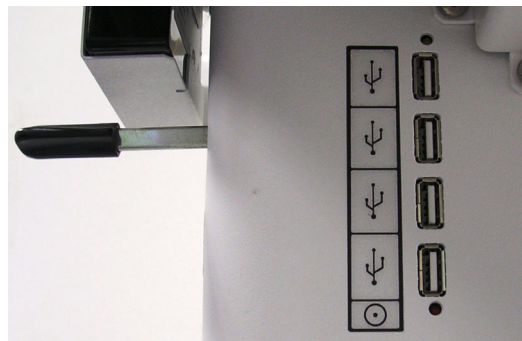

Figure 3-26 USB ports Located Below the Support Tray of the Vivid-i™ / Vivid-q™ Cart
- 4.) Plug the USB connectors into the USB ports located below the upper shelf of the SafeLock Cart - see Figure 3-25 and Figure 3-26.